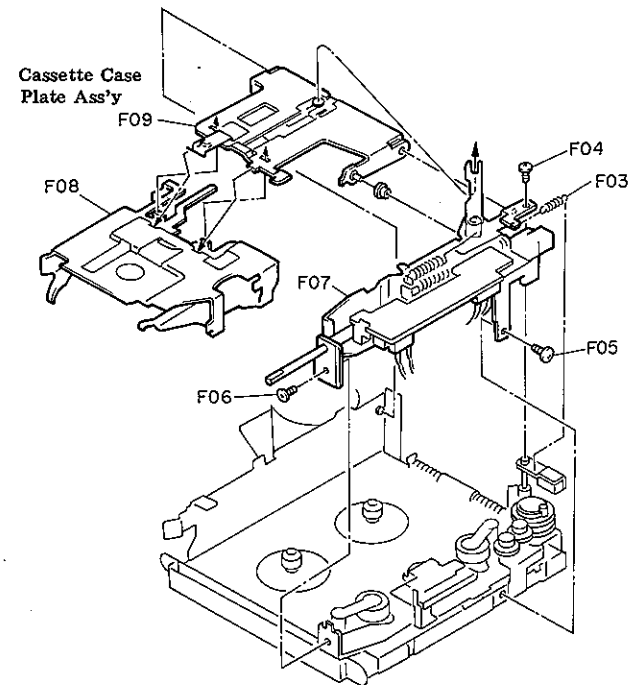

Fig. 2.4.2
- (3) Unhook F03 (Chip Arm Spring). (See Fig. 2.4.2.)
- (4) Loosen screws F04 (1 pce.), F05 (1 pce.), and F06 (1 pce.), and remove F07 (Sub Chassis Ass'y, Deck P.C.B. & other parts).
- (5) Remove F08 (Cassette Case) and F09 (Cassette Case Plate Ass'y).